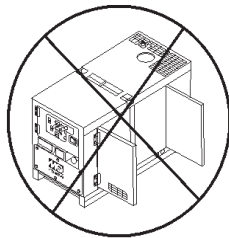

**Figure 39. Main, Aux. and GFCI Circuit Breakers (OFF)**
- Place the **main, G.F.C.I.** and **aux.** circuit breakers (Figure 39) in the **OFF** position prior to starting the engine.